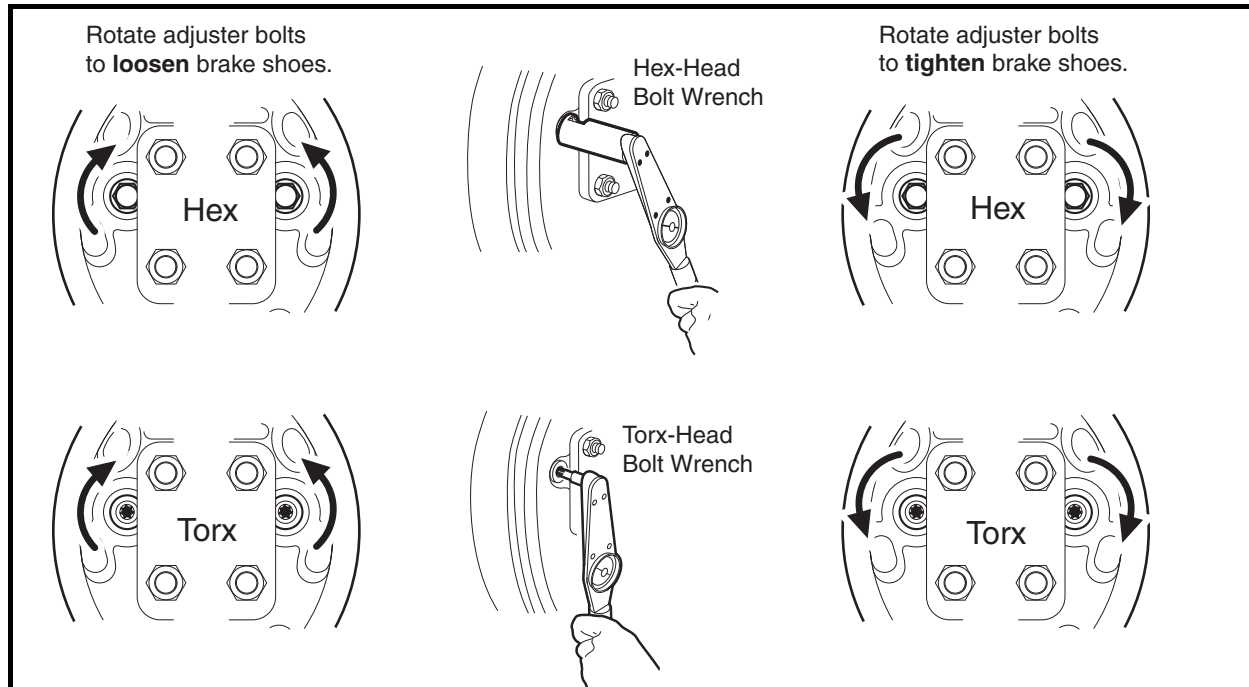

Figure 6-14 Loosen or Tighten Brake Adjusters
- 9.2. Use a torque wrench and a Torx #27 driver, or hydraulic brake adjuster (CC P/N 102169401), and gently rotate the adjuster bolts to increase the clearance between the brake shoe lining and the brake drum (**Figure 6-14, Page 6-16**). **See following NOTE.**
18. Install the dust cover (1).
19. With the brake drum properly seated and secured, use a torque wrench with a Torx #T-27 driver, or hydraulic brake adjuster (CC P/N 102169401), and gently adjust the clearance between the brake shoes and brake drum by turning each of the two adjuster bolt heads on the back of the brake cluster plate (**Figure 6-14, Page 6-16**). **See following CAUTION.**
2. Use a torque wrench and a Torx #T-27 driver, or hydraulic brake adjuster (CC P/N 102169401), and gently rotate the adjuster bolts to increase the clearance between the brake shoe lining and the brake drum (**Figure 6-14, Page 6-16**). See following **NOTE**.
4. With the brake drum properly seated and secured, gently adjust the clearance between the brake shoe lining and brake drum (**Figure 6-14, Page 6-16**). See following **CAUTION**.